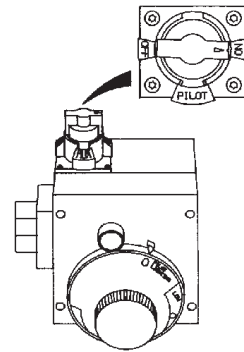

Figure 8
11. At arms length away, turn gas control knob counter-clockwise  to the full "ON" position. **WARNING: Do not use gas control knob to regulate gas flow.** (Figure 8)